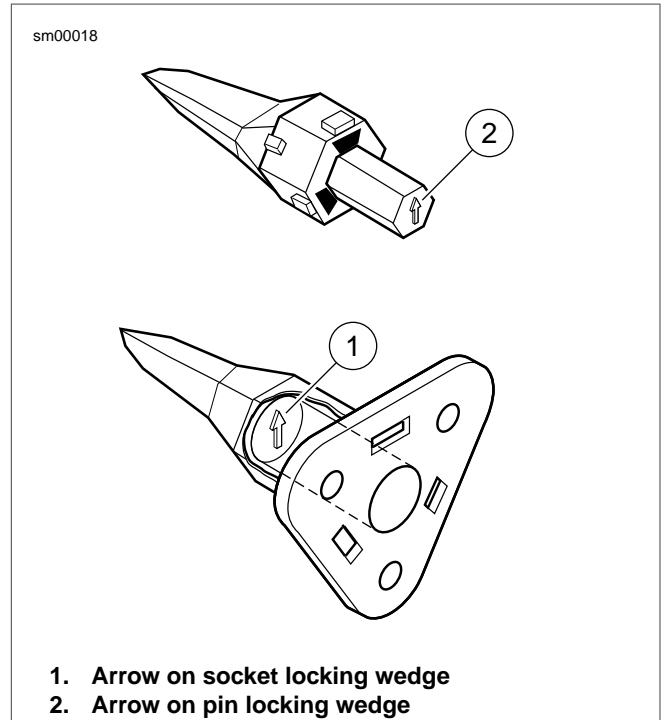

Figure A-17. Deutsch Connector: 3-Place Locking Wedges
- See Figure A-17. While rectangular wedges do not require a special orientation, the conical secondary locking wedge of the 3-place connector must be installed with the arrow (1) pointing toward the external latch.
- See Figure A-17. While rectangular wedges do not require a special orientation, the conical secondary locking wedge of the 3-place connector must be installed with the arrow (2) pointing toward the external latch.